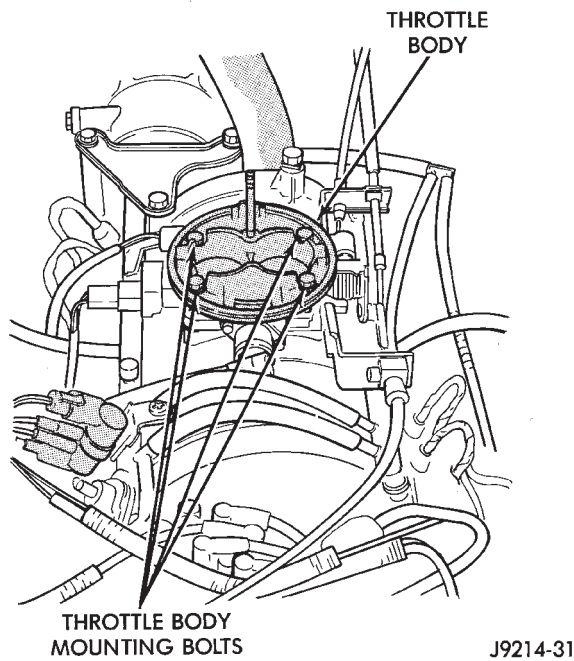

Fig. 23 Throttle Body Mounting Bolts—Typical
- (3) Remove vacuum line at throttle body.
- (4) Remove (unsnap) all control cables from throttle body (lever) arm. Refer to the Accelerator Pedal and Throttle Cable section of this group for additional information.
(5) Remove four throttle body mounting bolts (Fig. 23).
(6) Remove throttle body from intake manifold.
(7) Discard old throttle body-to-intake manifold gasket.